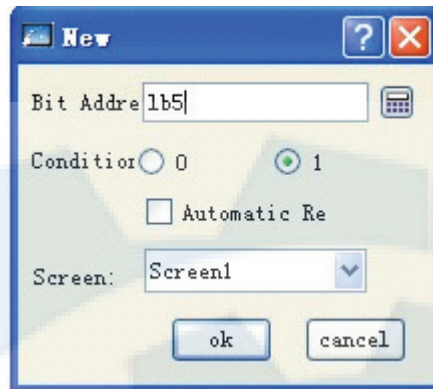

Figure 7-7 The dialog box of new creating a bit-control screen switching
- Bit-control screen switching: double click “new create” line, and pop up the dialog box as Figure 7-7: